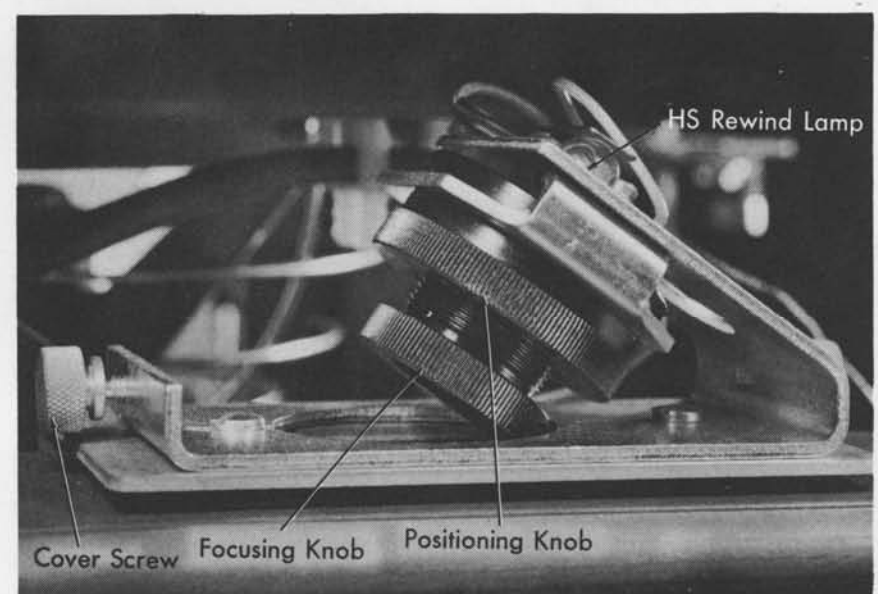

Figure 58. H-s Rewind Lamp Assembly
2. Focus and position the high-speed rewind light (Figure 58) so that the vertical slot of light is centered on the photocell in the finger guard between the reels.